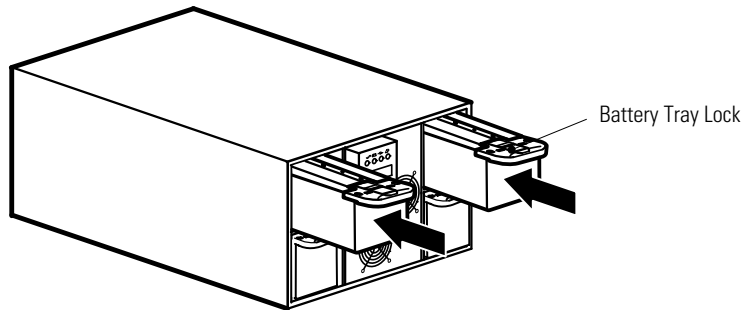

Figure 24. Installing the Battery Trays
2. Slide the battery trays into the cabinet (see Figure 24). Push each tray in until the battery tray lock on the handle catches to lock the tray in place.